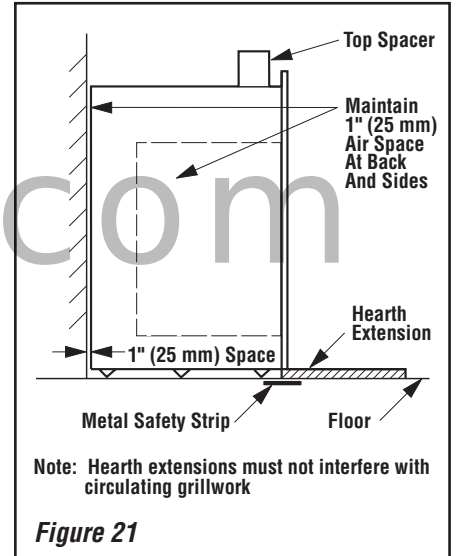

Figure 21
Step 2. Insert the provided metal safety strips, beneath the fireplace as illustrated (Figures 21, 22 & 23). The safety strips should overlap 1/2 min. for continual coverage of the floor.
Note: Install the hearth extension only as illustrated (see **Figures 21 & 22**).